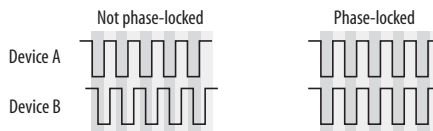

Figure 4-16: When transferring audio, two devices must have phase-locked audio clocks to prevent clicks, pops or other artifacts.
- Synchronizing with other digital audio devices so that their digital audio clocks are *phase-locked* (as shown in Figure 4-16)